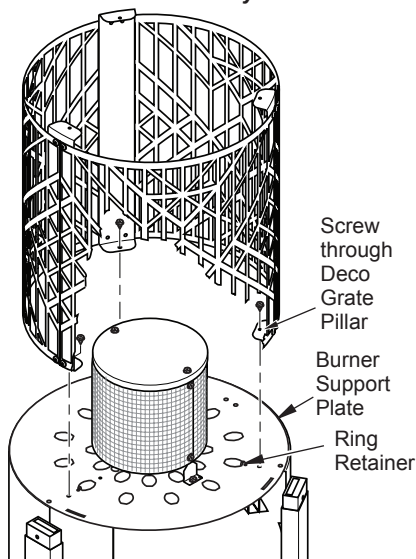
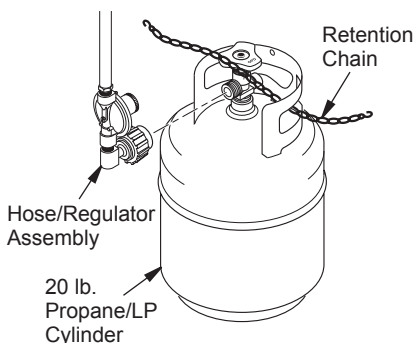

Figure 7 - Attaching Grate Assembly to Heater
Figure 12 - Connecting Hose/Regulator Assembly to Propane/LP Cylinder
13. Attach grate assembly to burner support plate using 3 screws, (C) one through bottom of each deco grate pillar (see Figure 7).
22. Place ring retainers ("S" hooks) through holes in burner support plate as shown in Figure 7, page 6.
Use only a 20 lb. propane/LP cylinder (not included). See safety information for proper cylinder selection. Connect hose/regulator assembly to propane cylinder (see Figure 12). Hose should already be connected to heater. When connecting regulator assembly to cylinder valve, hand tighten nut clockwise to a positive stop. DO NOT use a wrench to tighten. Use of a wrench may damage quick closing coupling nuts and result in a hazardous condition.
Route retention chain through at least one handle of propane/LP tank (see Figure 12). Make sure to route chain through handle on tank and NOT around tank valve. Chain must not interfere with valve. Attach hooks on both ends of chains to ring retainers installed on burner support plate. See Figure 7, page 6.